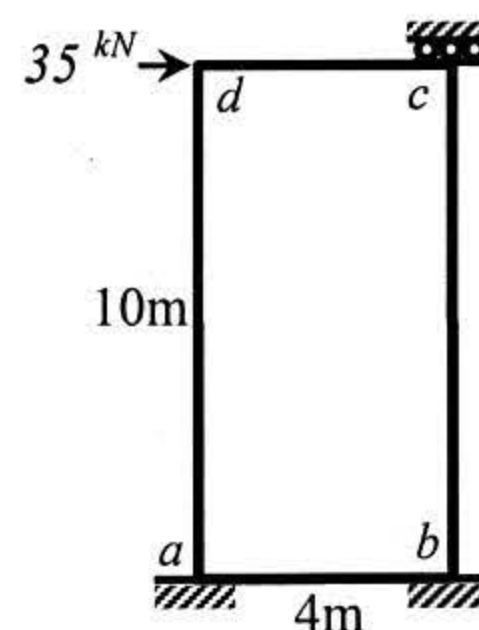

Fig.4
- b. Use Stiffness Method (neglecting axial deformation) to calculate the unknown deflection and rotation of the frame abcd loaded as shown in Fig.4 [Given: $EI = 16 \times 10^3$ kN-m²]. **[10 marks]**